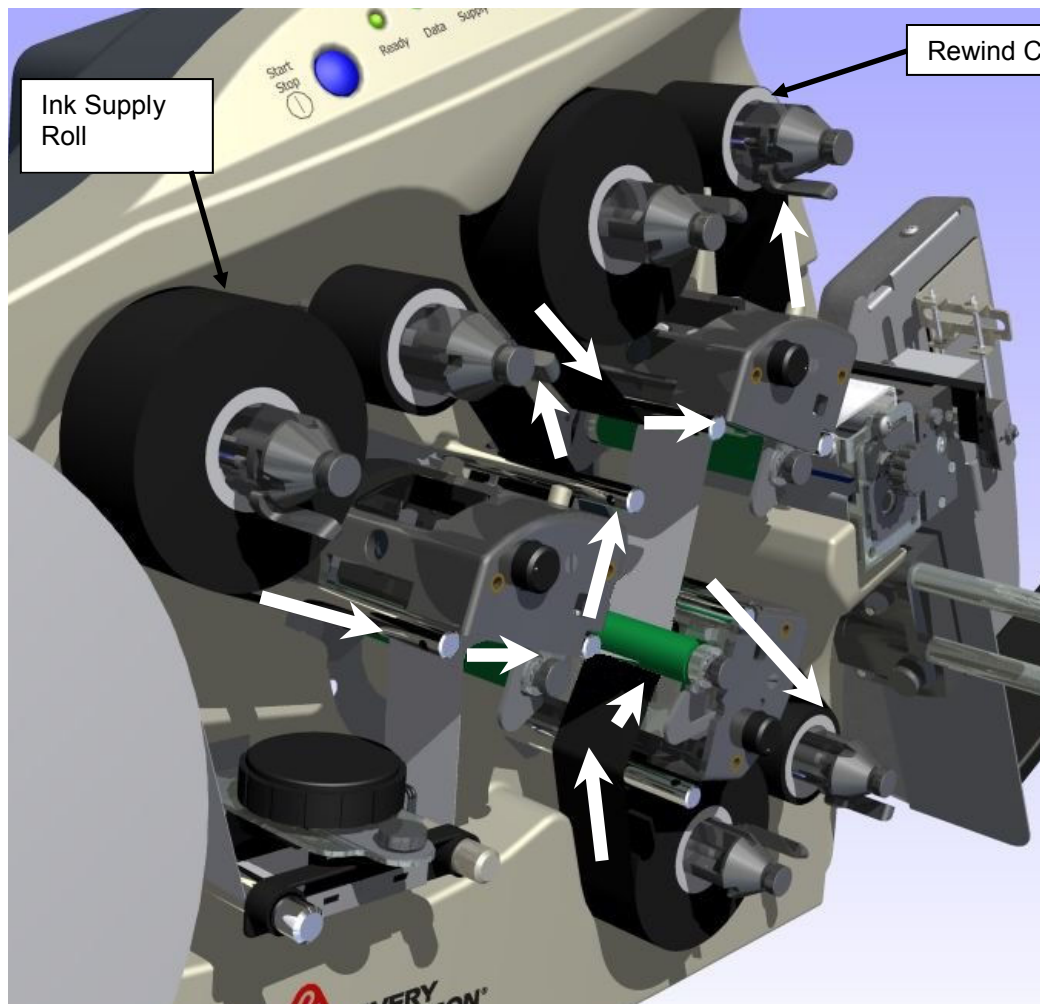

Figure 8: Upper and Lower Ink Supply and Print Stations - Loaded
3. Open the print roller (See Figure 8).